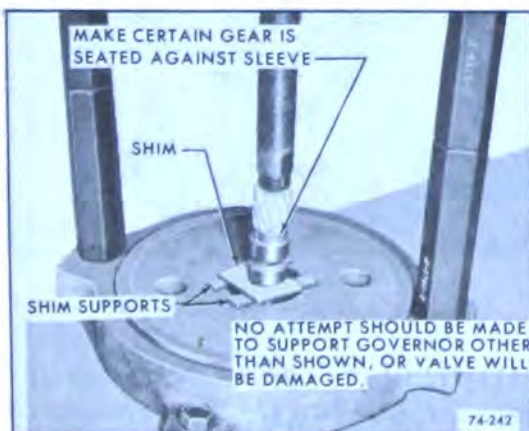

Figure 74-242
b. Place shim supplied in replacement gear kit between the second and third lands of governor sleeve. See Figure 74-242.
c. Make certain new gear is positioned squarely on sleeve and press gear into sleeve. Gear must be seated against sleeve. See Figure 74-242.